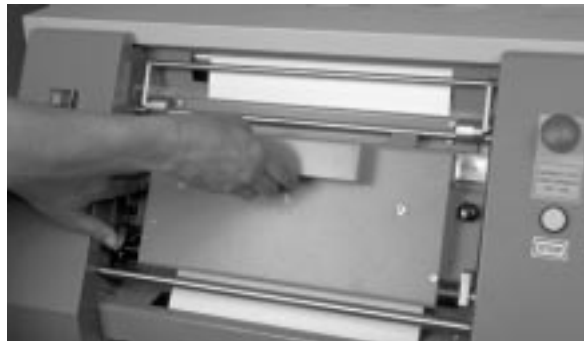

Figure 215. Closing the Splicing Table
- 7 Close the splicing table, as shown in Figure 215, pressing firmly to ensure that both edges are secure.